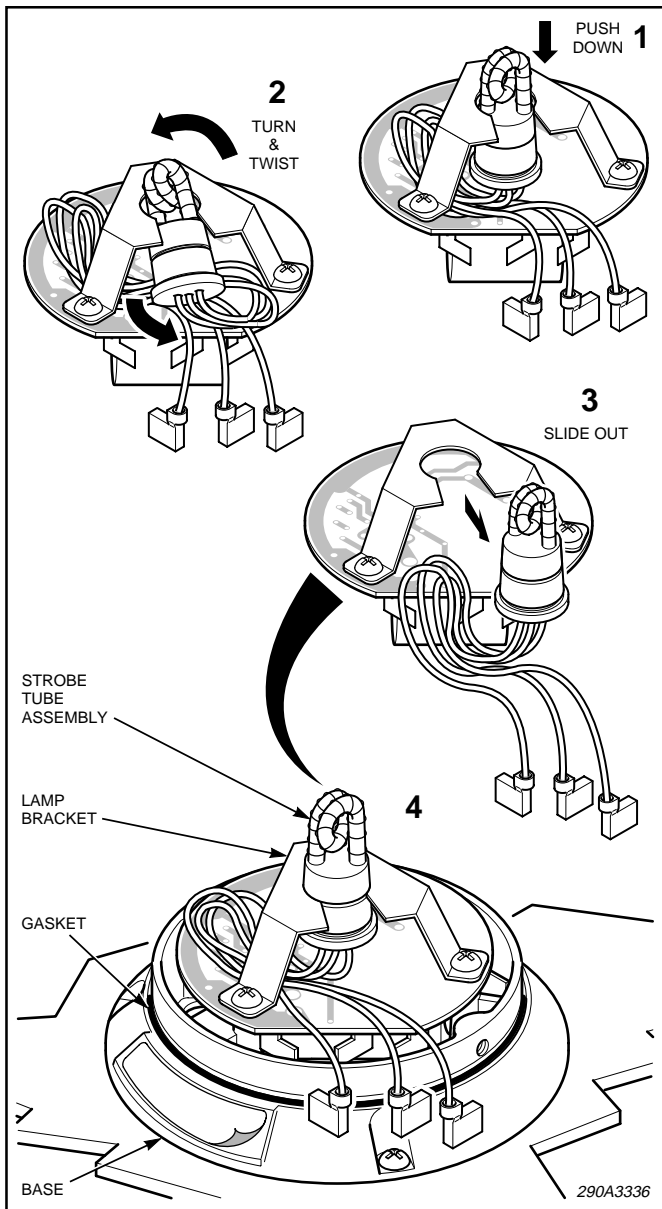

Figure 4.
4. See figure 4. Gently push the silicone rubber base of the strobe tube down toward the PC board, and then carefully slide it out through the slot in the metal bracket.
5. See figure 4. Slide the new tube through the slot into the round center of the bracket, and then push the tube up into its position by pressing the rubber base from the bottom.
6. Connect the red, white, and black wires to the appropriate terminals on the PCB. Ensure that the wires are looped to the left as shown in figure 4.